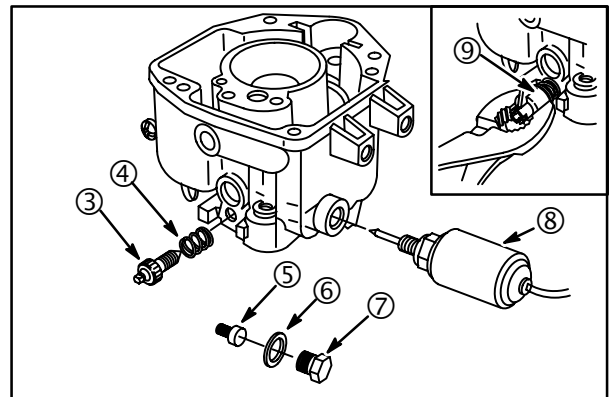

Fig. 80
If idle mixture screw is equipped with adjustment limiter cap (9), use a pliers to remove it before removing idle mixture screw (inset), **Fig. 80**.
4. Remove idle mixture screw (3) and spring (4), **Fig. 80**.
5. Remove anti-afterfire solenoid (8), if equipped, or plug (7) and washer (6).
6. Remove fixed main jet (5) using Screwdriver, #19062.